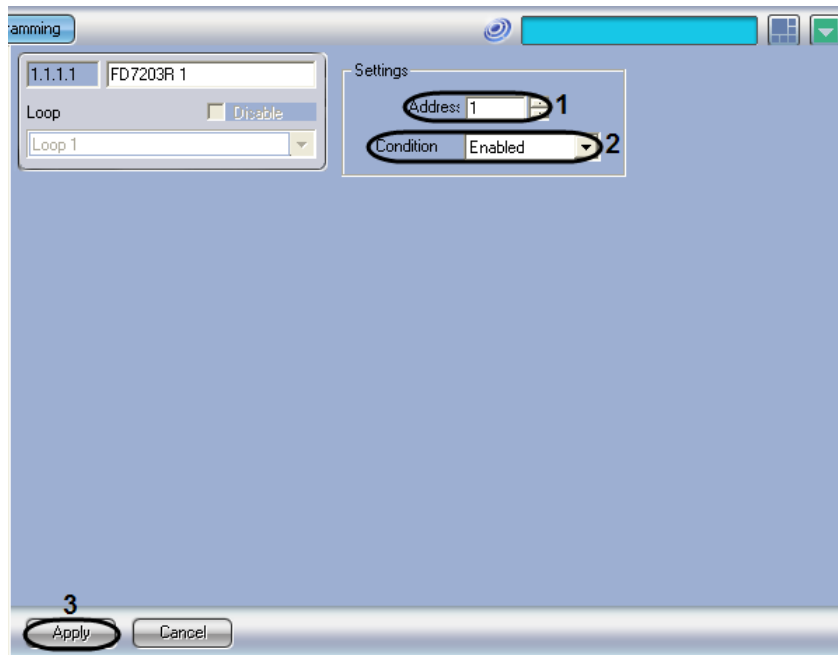

Fig. 3.6—11 Configuring the FD7203 addressable module
2. Enter the CAN network address of the FD7203R module into the “Address” field (see Fig. 3.6—11, 1).
3. Select Enabled/Disabled in the “Condition” field (see Fig. 3.6—11, 2).